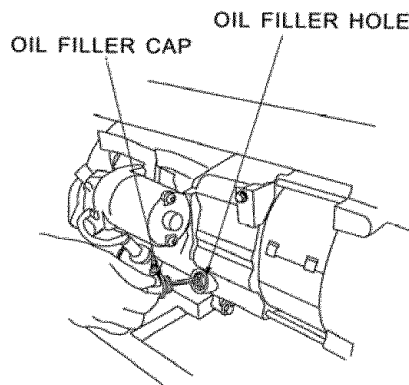

Figure 15- Checking the oil
2. Unscrew the oil filler/dipstick cap (see figure 15).
2. Unscrew the oil filler/dipstick cap from the engine as shown in figure 15 above.